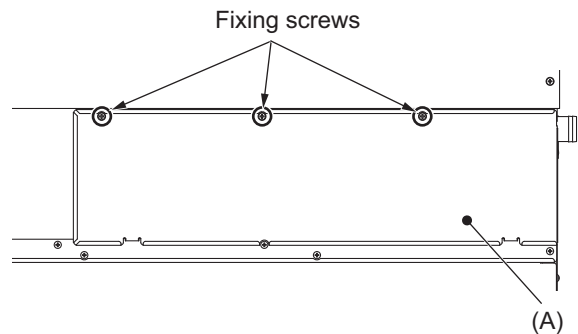

Fig.1
(1) Remove the fixing screws (three) of the control box, and remove the cover (A). (Fig.1)